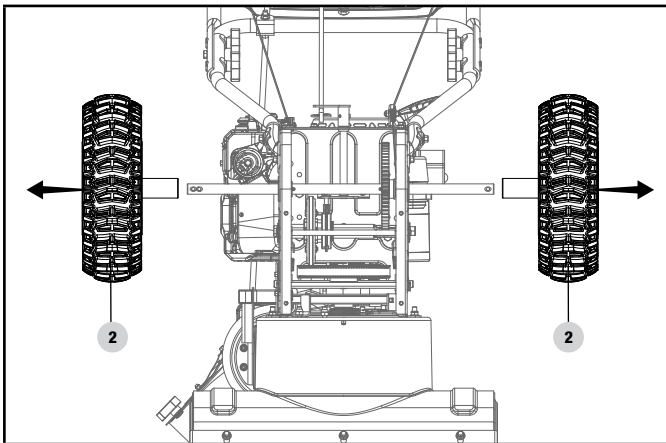

Figure 48B
3. Remove the right wheel (2) by removing the axle pin on it (Fig. 48B).